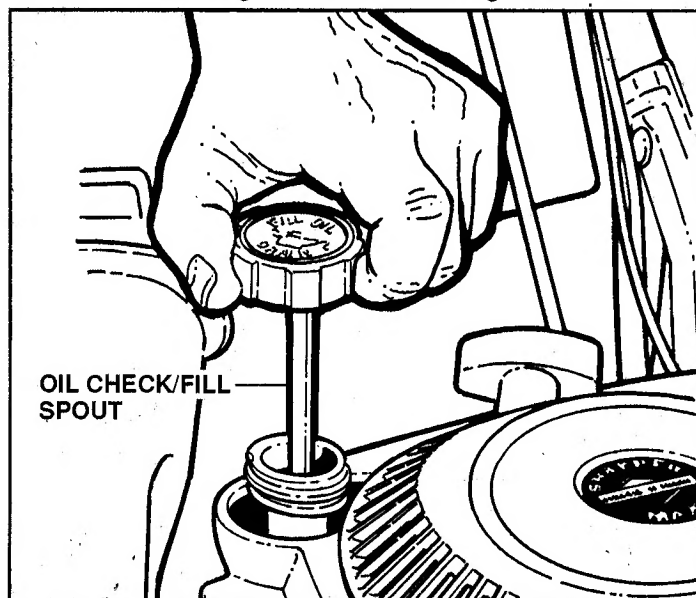

FIGURE 2.1
1. Change oil every 25 hours as specified in engine manual. See Figure 2.1.